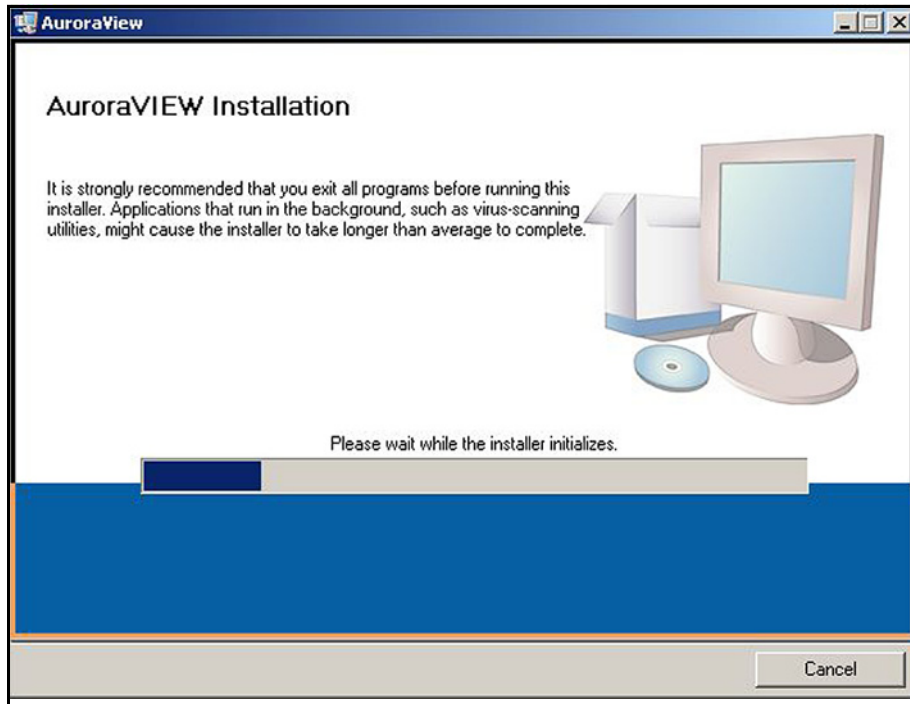

Figure 22: Installation Recommendation
4. Exit all other programs before running the installer (see *Figure 22* below).